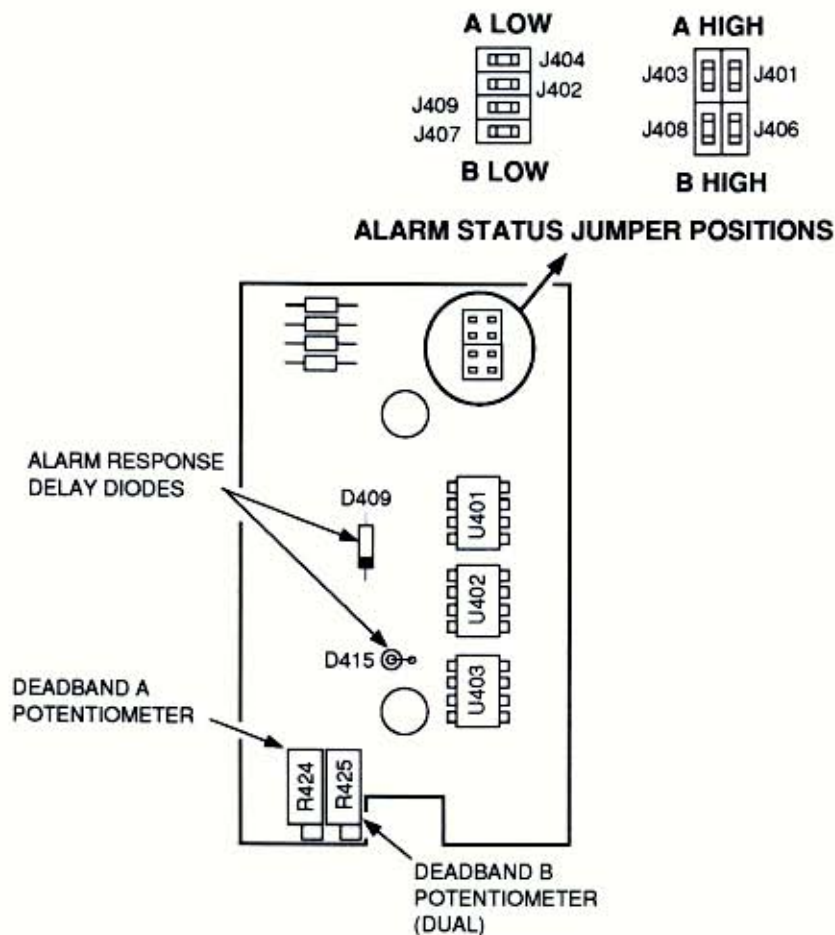

Figure 3. PC4 Component Location Diagram
1. Verify that jumpers J401 through J409, located on PC4, are set for a high or low alarm, as required. Refer to table 2 and see figure 3.
1. Turn Deadband A Potentiometer (R424) fully clockwise. See figure 3.
The Alarm Response Delay (AR) option introduces a time delay in the unit. This makes calibration difficult because the User must wait for the delay time to see if the trip points have been tripped. The delay may be defeated by short-circuiting diodes D409 and/or D415. See figure 3. Take extreme care in shorting diodes, as damage may occur if diodes are accidentally shorted to other parts.